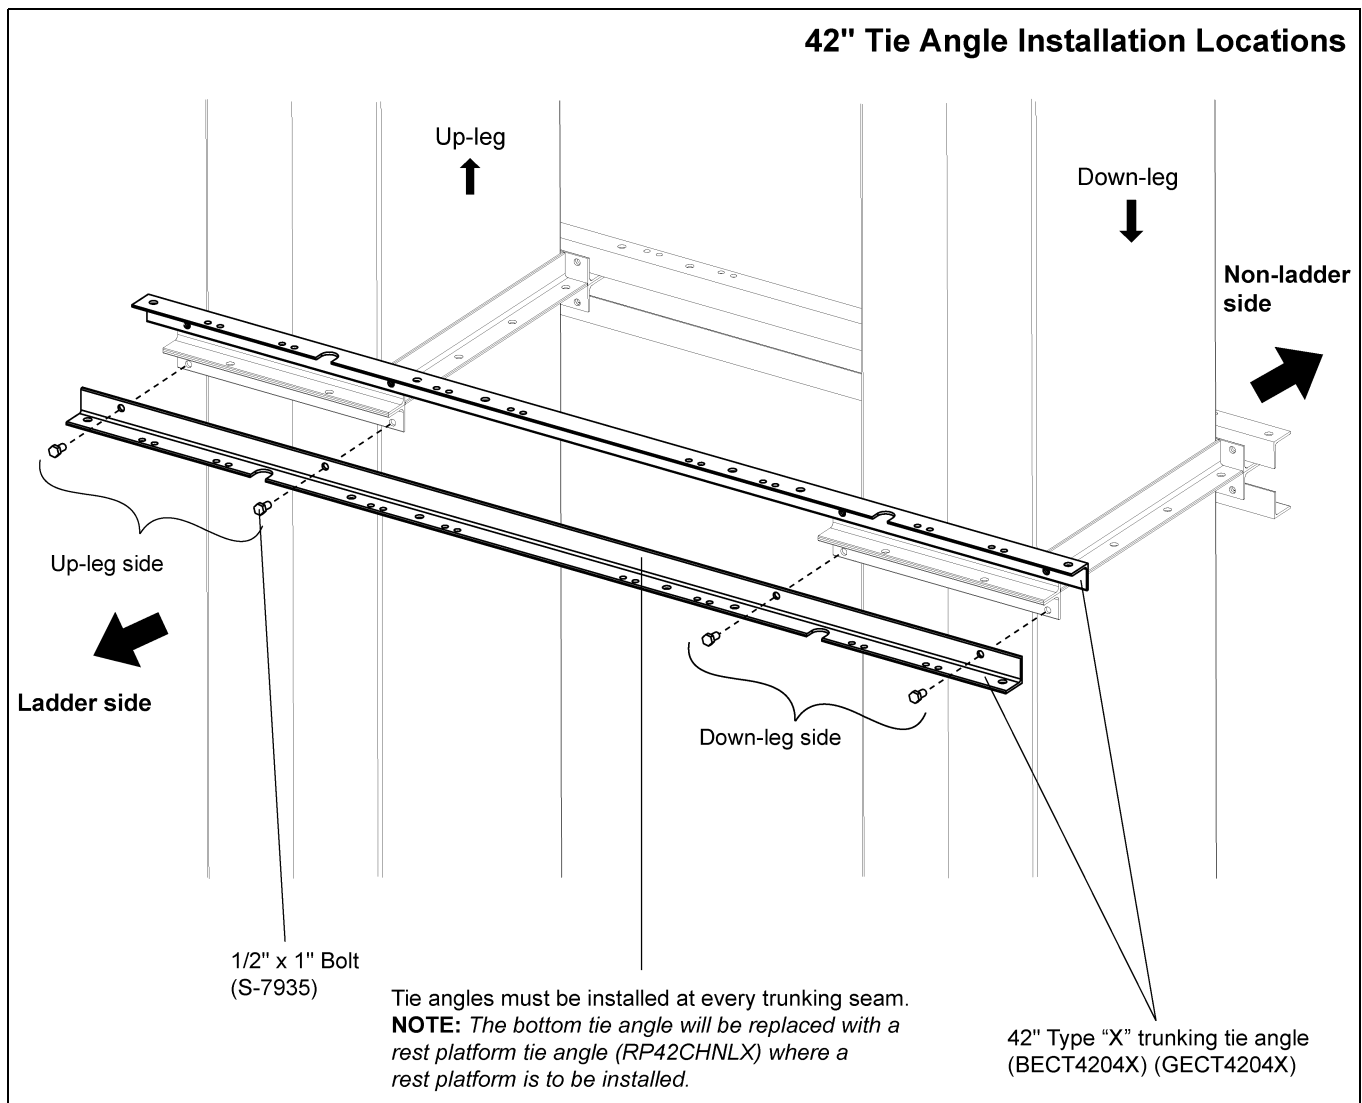
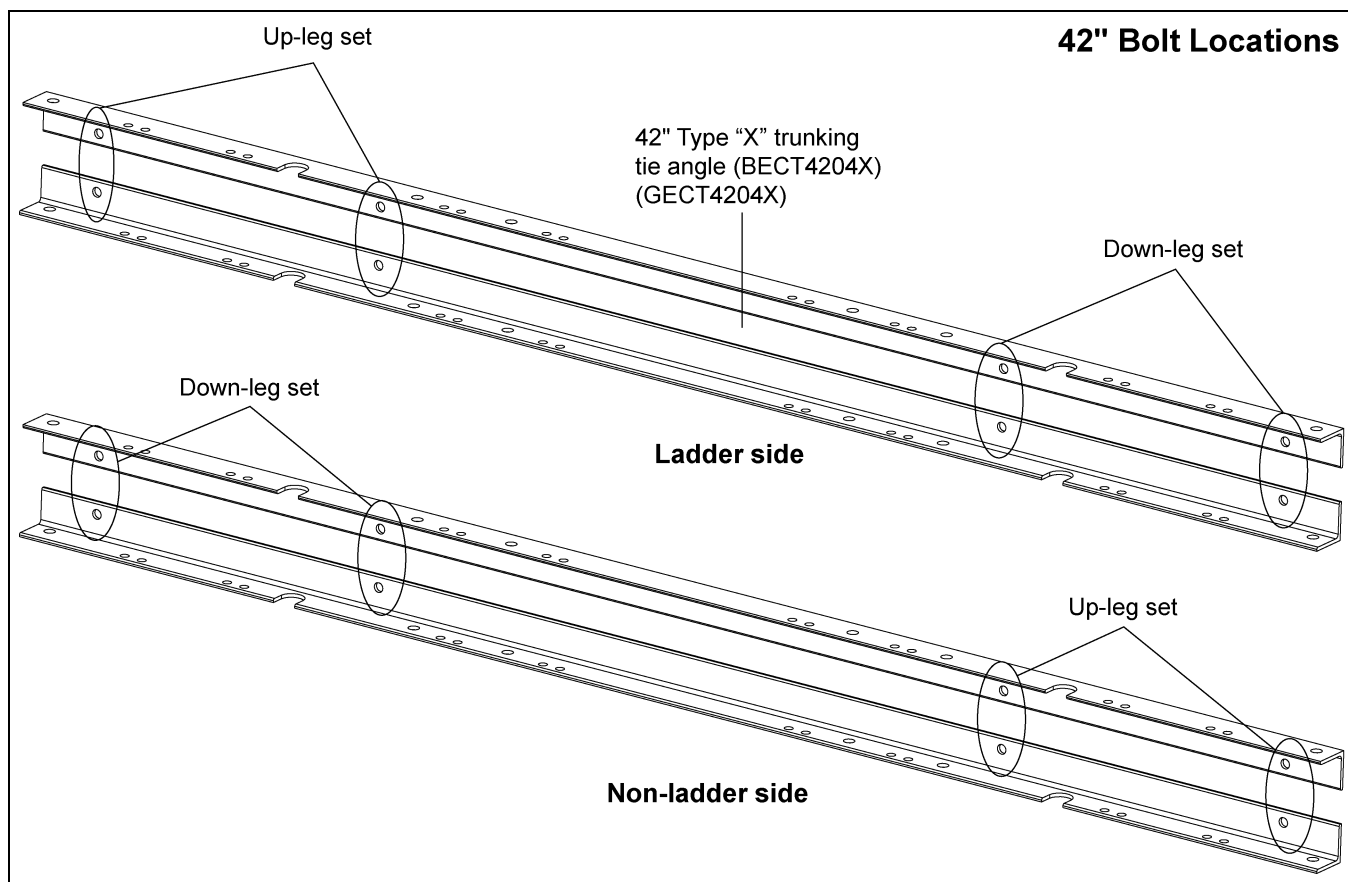

Figure 6J 42" Tie Angle Installation Locations
Figure 6K 42" Bucket Elevator Tie Angles to Trunking Bolt Locations
1. **For 42" Tie Angles:** Install two (2) tie angles (GECT4204X or BECT4204X) to both sides of the trunking seam using 1/2" x 1" HHCS bolts (S-7935) and 1/2" flange nuts (S-8506). Installation is the same for both the ladder and non-ladder sides. (See Figure 6J below and Figure 6K on Page 28.)